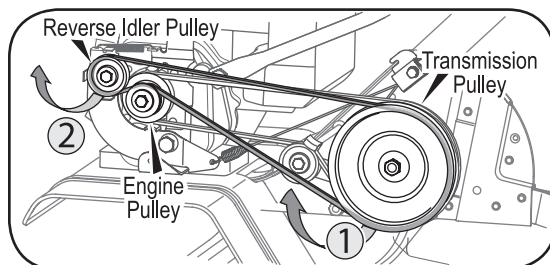

Figure 5-2: Reverse drive belt removal.
3. Remove belt from transmission pulley and then from around the reverse idler pulley. See Figure 5-2.
4. To reassemble new belt. Follow instructions in reverse order. Be sure to place wider side of belt against transmission and idler pulley while slimmer side goes over the engine pulley. See Figure 5-2.
NOTE: Upon reassembly, make certain the belt is routed over the idler pulley and inside of belt keepers by engine pulley. See Figure 5-2.